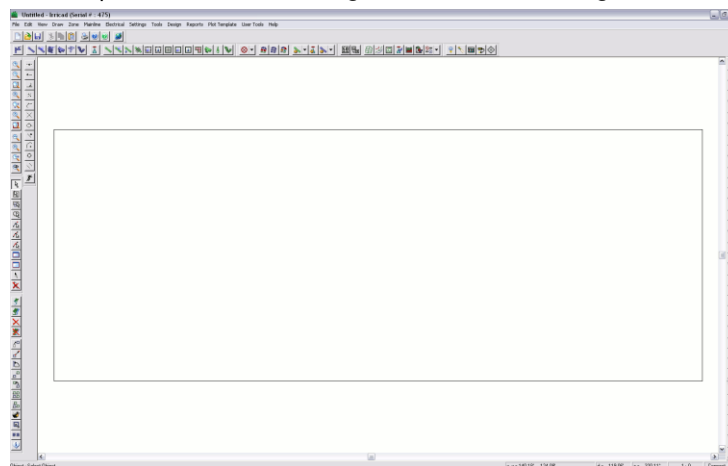

Figure 4-38
5. Select *Draw|Rectangle|2 Point* and move the cursor to the bottom left of the screen and click the left mouse button to start the rectangle. You will notice that the status bar will ask you to enter the corner point of the rectangle prior to you clicking the mouse and for you to enter the opposite corner after you have placed the first. Draw the cursor away from the first point and left-click to place the second point. Now select *Modify|Change* and click on the border of the rectangle. Edit the “Width” to be **390 (120)** and the “Height” to be **150 (45)**. Click [OK]. Select *View|Zoom All*. Your design should look like Figure 4-38.